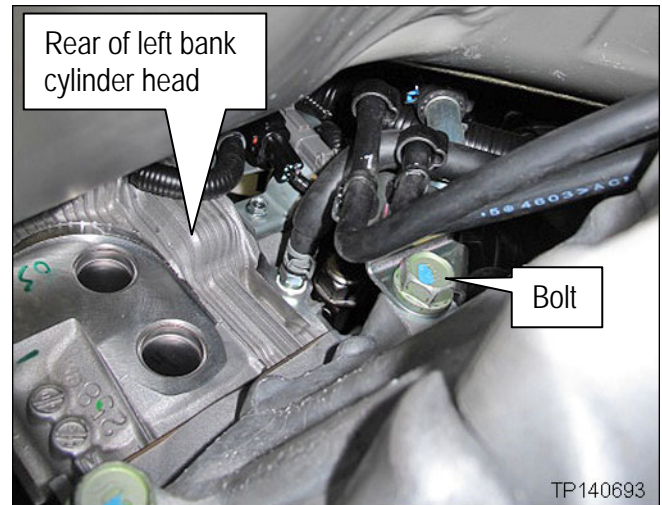

Figure A7
10. Locate and remove the bolt shown in Figure A7.